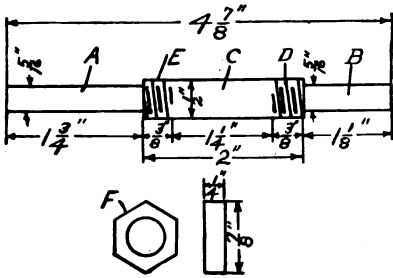

Fig. 5. Rotor Shaft
Center and mount a $4\frac{7}{8}$ inch piece of $\frac{5}{8}$ inch machine clear through steel in the lathe. Both ends are turned down to $\frac{3}{8}$ inch in diameter, the end (A), Fig. 5, for a distance of $1\frac{3}{4}$ inches and the other end (B) for a distance of $1\frac{1}{8}$ inches. The center (C) is turned down to $\frac{1}{2}$ inch in diameter and threaded twelve threads per inch for a distance of $\frac{3}{8}$ inch on
ends (D) and (E). Fig. 5 gives the finished dimensions of the shaft. The core is to be mounted on the center portion of the shaft, clamped between two nuts (F). The nut is drilled out $\frac{3}{8}$ and tapped $\frac{1}{2}$ inch, twelve threads per inch.